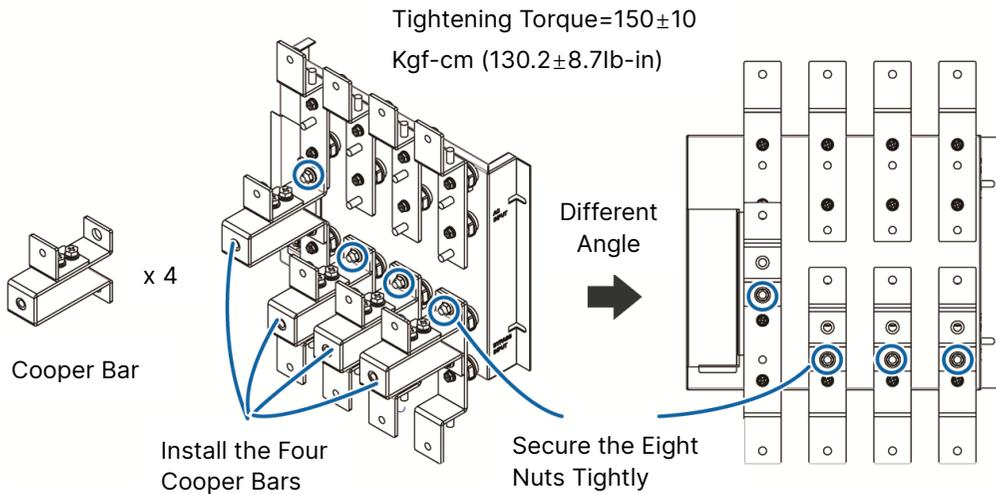

Figure 5-7: Install the Four Copper Bars and Secure the Eight Nuts_ for Dual Input & Top Wiring Application
- A. For dual input and top wiring application, follow *Figure 5-7* to install the removed four copper bars in the designated areas. Please secure the eight nuts tightly.